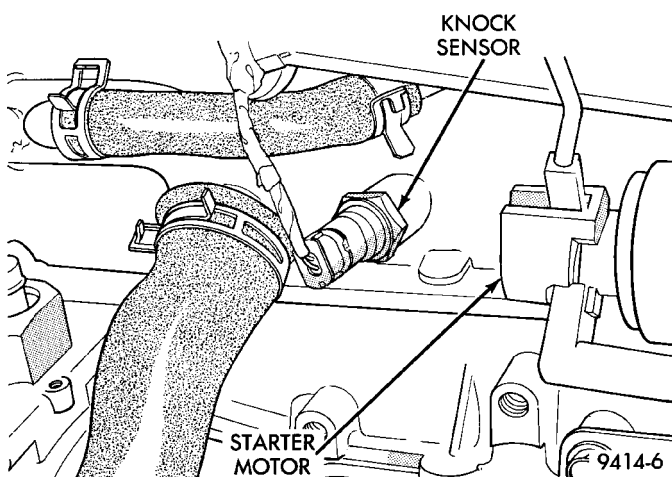

Fig. 41 Knock Sensor
(13) Inspect the air cleaner filter element. Replace as necessary. Check the air induction system for restrictions.
(14) Check the electrical connection at the knock sensor (Fig. 41).